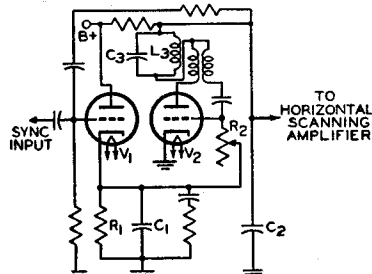
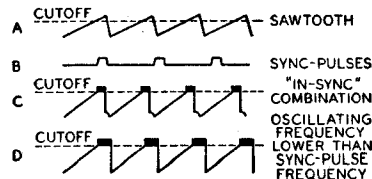
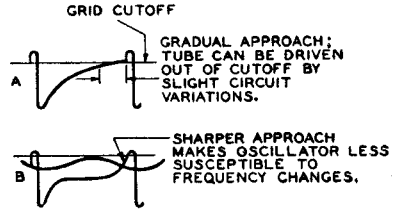

Fig. 77—Simplified synchroguide circuit, that properly locked-in horizontal scanning results.
Fig. 78—Sawtooth and sync pulses in synchroguide circuit.
Fig. 79—Waveforms showing effect of tuned circuit  $L_3C_3$  in Fig. 77.
The "synchroguide" is a controlled type of oscillator used in television receivers to generate and control the synchronized sawtooth voltage necessary for adequate line- or horizontal-frequency scanning. A simplified synchroguide circuit is shown in Fig. 77. This circuit provides stable, noise-free control
The triode  $V_2$  in Fig. 77 is a conventional blocking oscillator which enables a sawtooth voltage to be developed across the capacitor  $C_2$ . A portion of this sawtooth is fed back to the grid of the control tube,  $V_1$ . The positive sync pulses are also applied to the grid of  $V_1$ . The waveforms shown in Fig. 78 illustrate the sawtooth and sync pulses (A and B) and their proper "in-sync" combination (C). The sync pulse occurs partly during the portion of the sawtooth voltage in which the triode  $V_1$  draws current. Any shift in sync pulse as it is superimposed on the sawtooth, therefore, will affect the amount of conduction of the control tube. A change in control-tube conduction ultimately affects the bias on the oscillator-tube grid by changing the voltage to which the capacitor  $C_1$  in the cathode circuit may charge. An increase in the positive bias increases the frequency of oscillation.
For example, waveform D in Fig. 78 illustrates a condition in which the sawtooth voltage is advanced in phase
The blocking oscillator can be made more immune to changes in frequency and noise if  $V_2$  is brought out of cutoff very sharply. This effect is obtained by sine-wave stabilization. The tuned circuit  $L_3C_3$  in the plate circuit of Fig. 77 superimposes a shock-excited sine wave on the plate and grid waveforms, as shown in Fig. 79.